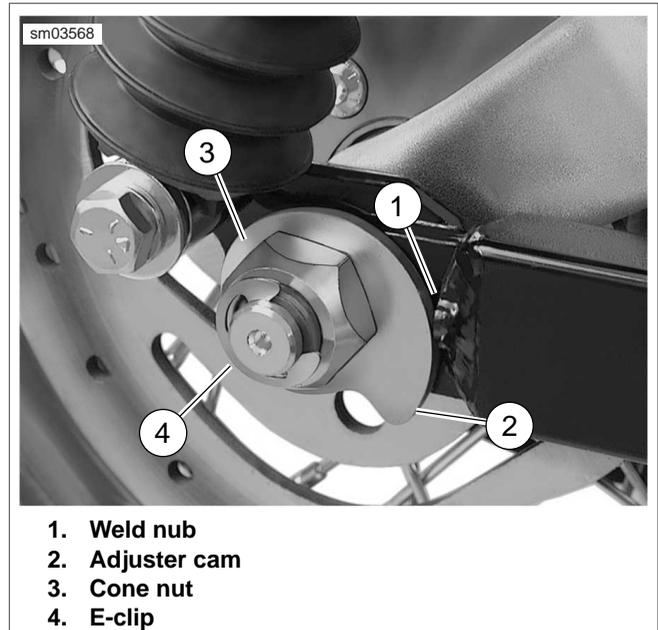

Figure 6-38. Rear Wheel and Adjuster Cam (Right Side)
2. See Figure 6-38. Remove E-clip from groove at end of axle.